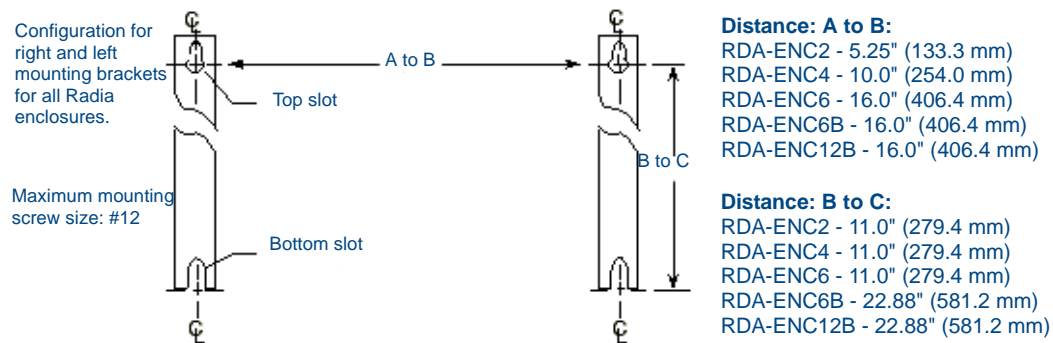

FIG. 14 Center-line reference points and dimensions
AMX Lighting enclosures must be mounted on a vertical surface with a minimum of 12" (304.8 mm) clearance above and below the enclosure. FIG. 14 shows the centerline reference points and dimensions.
3. Mark the four mounting holes according to the dimensions shown in FIG. 14.